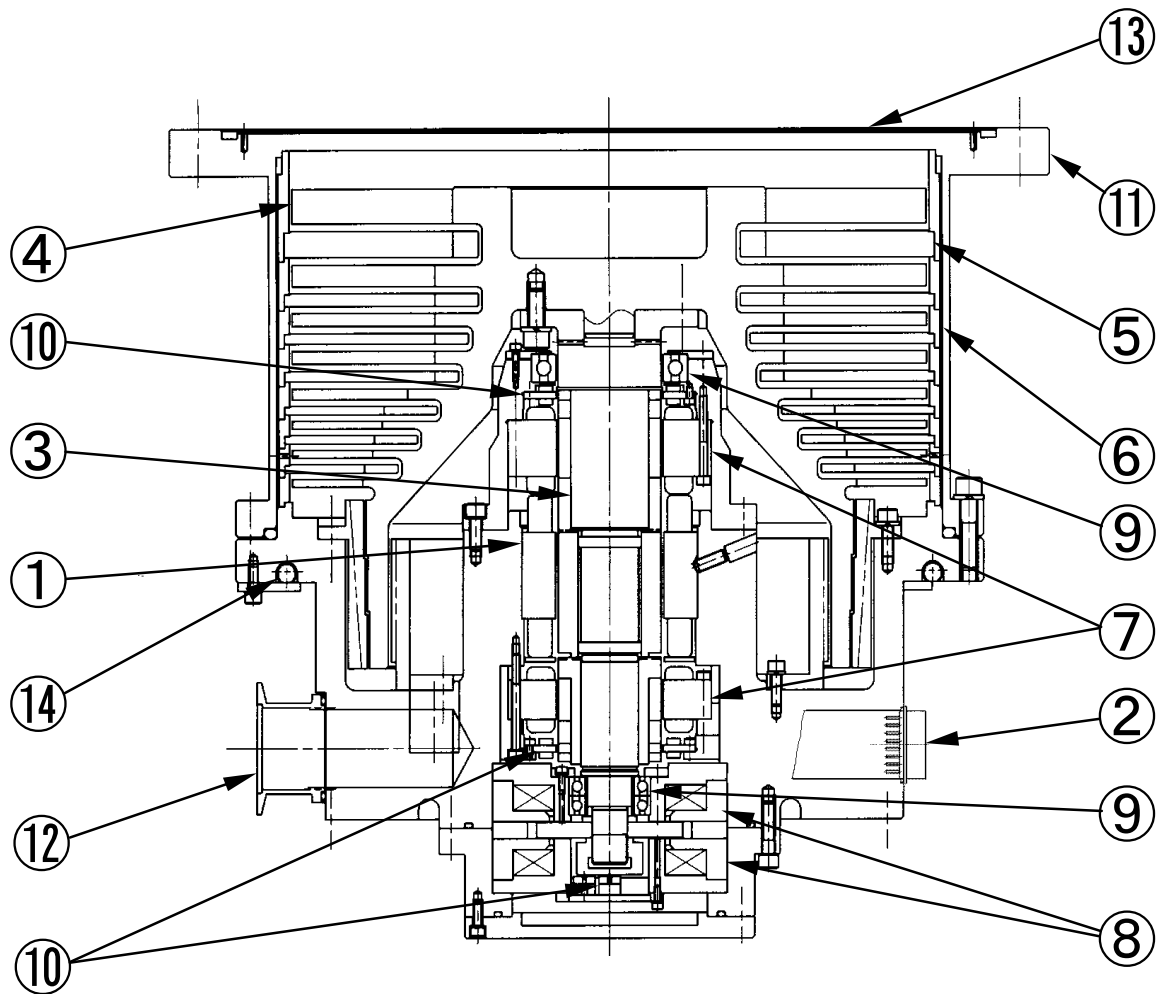

Fig.3-1 Pump Sectional Drawing
Fig. 3-1 is a sectional drawing of the TMP-3203LM and TMP-3203LMC and TMP-3403LMC magnetic bearing type turbo molecular pump. The built-in high frequency motor (1) is accelerated to the specified revolutions (speed) by the high frequency power supply unit. Rotor blades (4) are fitted onto the drive shaft (3) and the stator blades (5) are arranged in between the rotor blades. A positioning spacer (6) is inserted between the stator blades. The configurations and profiles of the stator blades and rotor blades are designed for high efficiencies in various applications. The upper stages of the rotor blade and stator blade configurations are ideally designed for high gas throughput. The compression ratio of the stator blades and rotor blades becomes higher as the gas molecules converge into the lower stage configurations. The profiles of the stator blades and rotor blades are matched for the desired function.